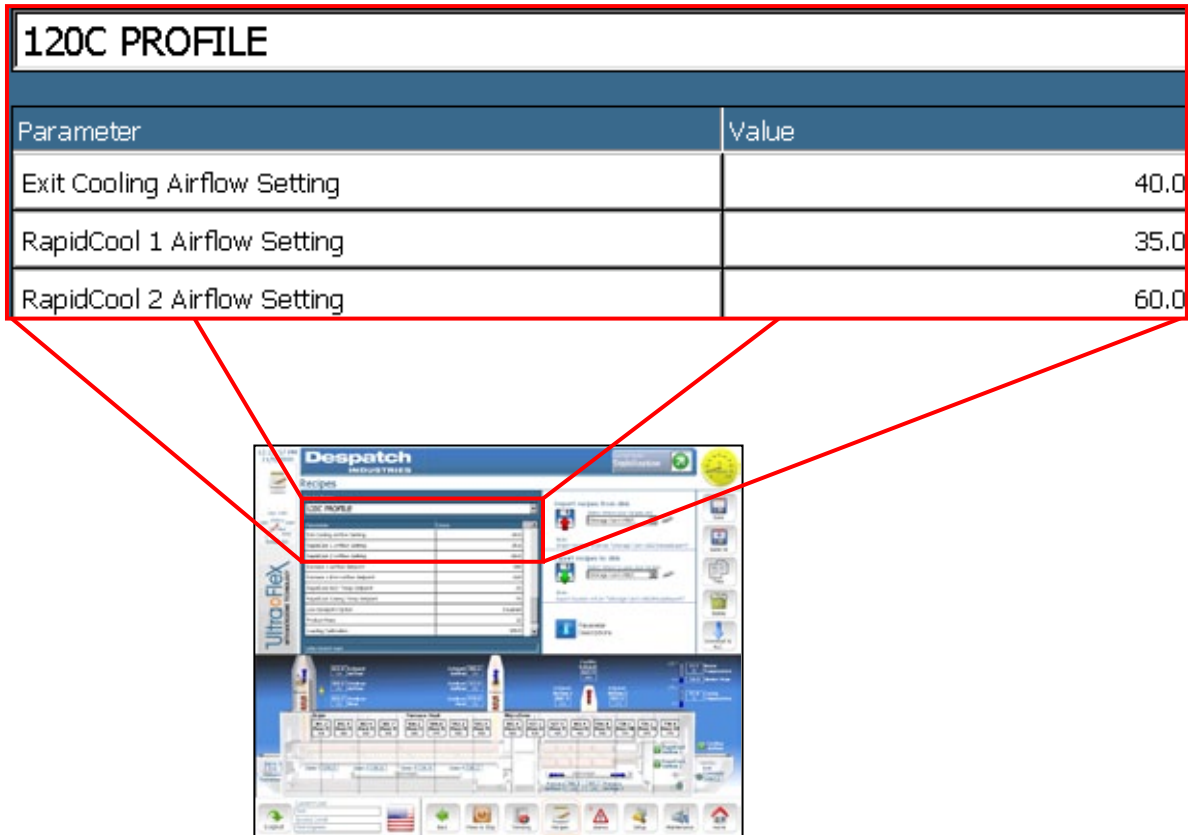

Figure 12. Adjusting Value on Detail Box.
7. Adjust final wafer temperature using the exit conveyor cooling blower volume. On the Recipe screen (Figure 12):